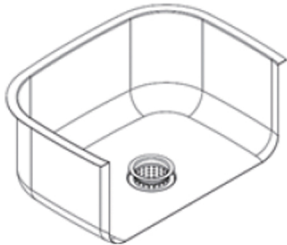

FIG 2
c) Apply a bead of silicone to the recess of the outlet and around the flange of the Scraptrap. Place fixed basket through the 90mm sink outlet as shown in Fig 2